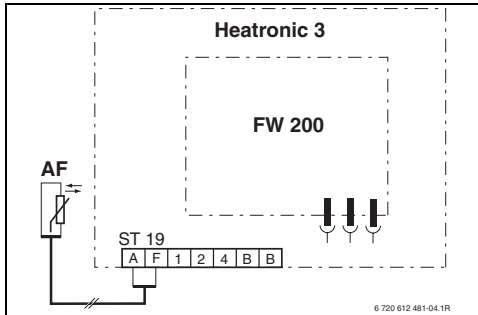

Fig. 16 Controls installed in boiler via BUS contacts in BUS-enabled Heatronic 3.
- Make the electrical connections (→ Fig. 16 or 17 on page 19).